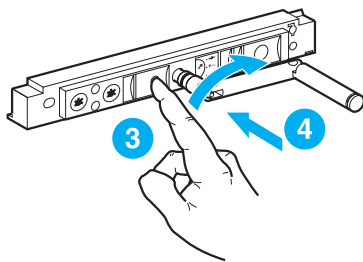
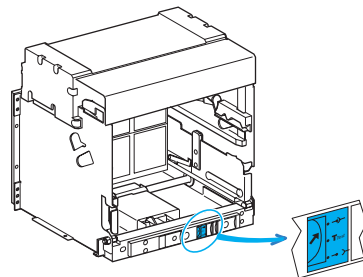

Fig. 2
Fig. 3
- Turn the crank (see Fig. 2) until "connected" position be indicated (see Fig. 3).